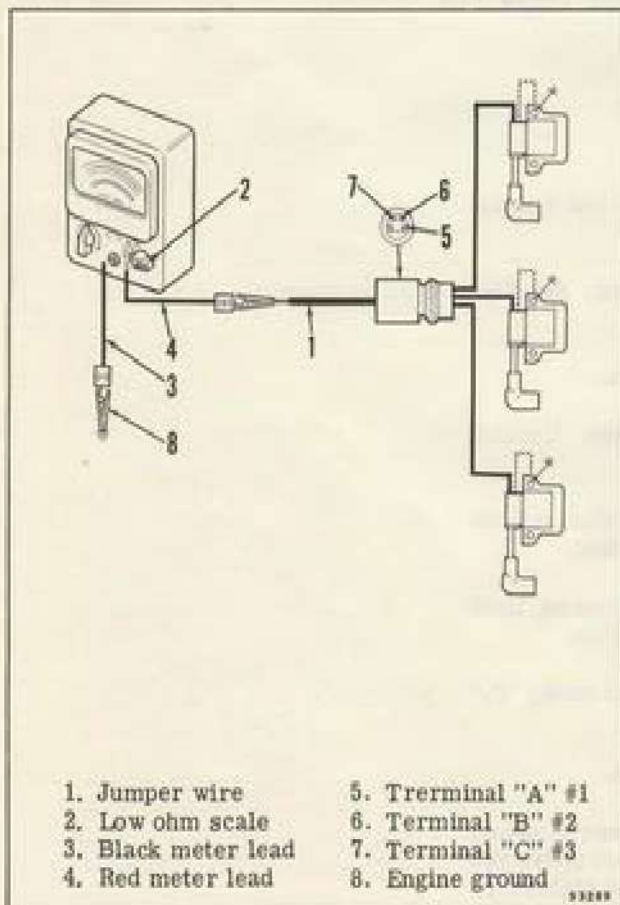

Figure 4-30. Primary Winding Resistance
- c. Insert a jumper wire into the "A" terminal on the ignition coil end of the connector. See Figure 4-30.
- d. Calibrate an ohmmeter to low ohm scale, then connect the black meter lead (-) to a clean engine ground, and the red meter lead (+) to the "A" terminal jumper wire. See Figure 4-30.